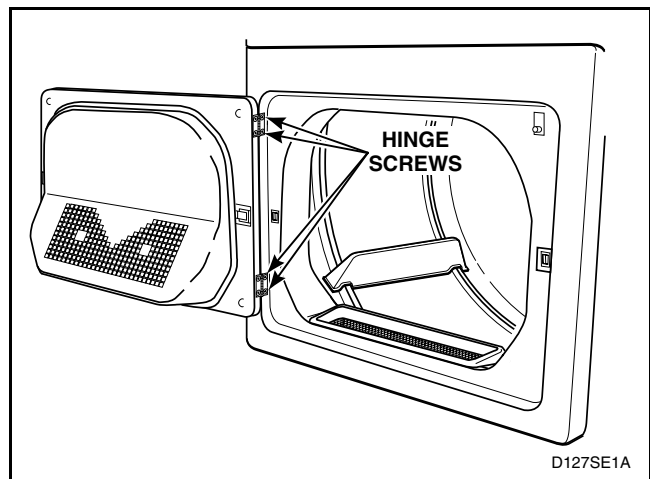

Figure 32
- i. While supporting door assembly, secure hinges to front panel using the four remaining screws. Refer to *Figure 32*. Tighten all screws firmly.